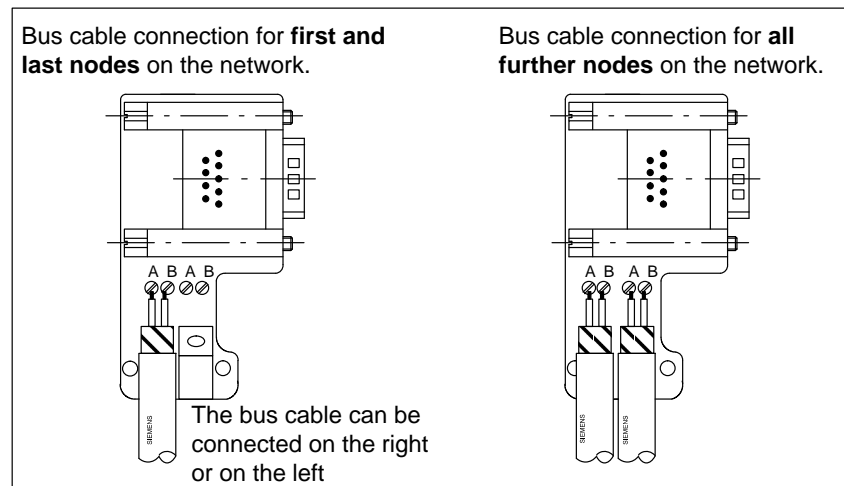

Figure 3-17 Connecting the Bus Cable to the Bus Connector
5. Insert the green and red wires into the screw-type terminal block as shown in Figure 3-17.